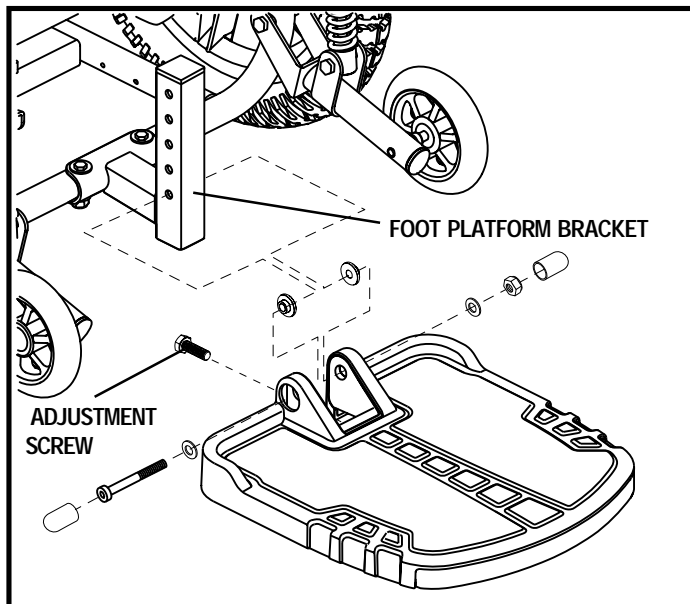

Figure 18. Foot Platform Adjustment
1. Remove the hardware from the foot platform bracket as shown in figure 18.
You can adjust the angle of the foot platform with a wrench. See figure 18.